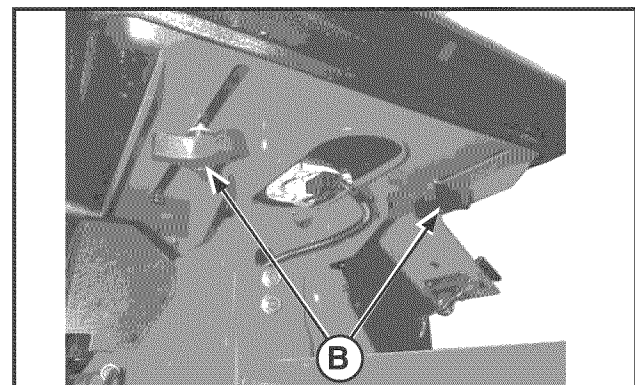

FIGURE 3
4. With the engine stopped, loosen the two adjusting knobs (B, Figure 3) and move the seat to the desired position. After adjustment, tighten the knobs securely.